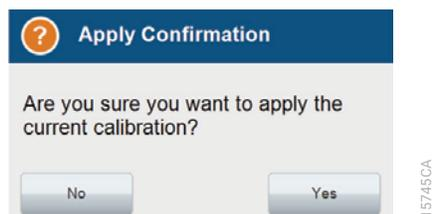

Figure 28. 'Apply Spectral Calibration' confirmation window.
7. After reviewing the results, select **Finish**. This will open a confirmation window. Select **Yes** to apply the spectral calibration results (Figure 28). The spectral calibration results will not be saved unless you select **Yes** on this window.